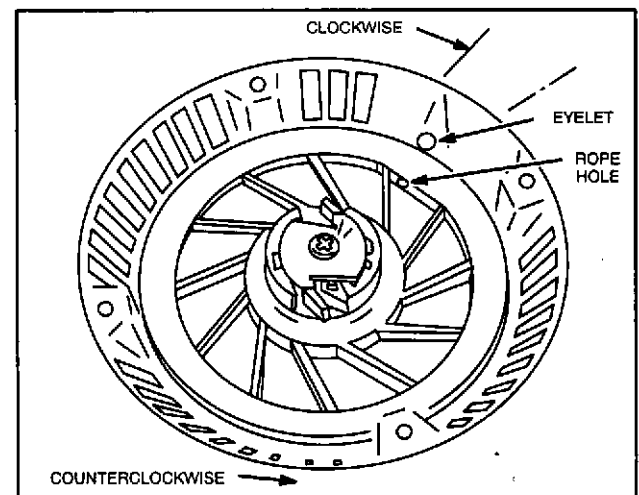

Fig. 5 - Winding Spring
Turn pulley **COUNTERCLOCKWISE SIX (6) complete turns**. Then rotate pulley clockwise until rope hole in pulley is in line with starter housing eyelet. Hold pulley in this position, Fig. 5.
Turn pulley **COUNTERCLOCKWISE** until spring is **WOUND TIGHT**. Then rotate pulley clockwise until rope hole in pulley is in line with starter housing eyelet. Hold pulley in this position, Fig. 5.